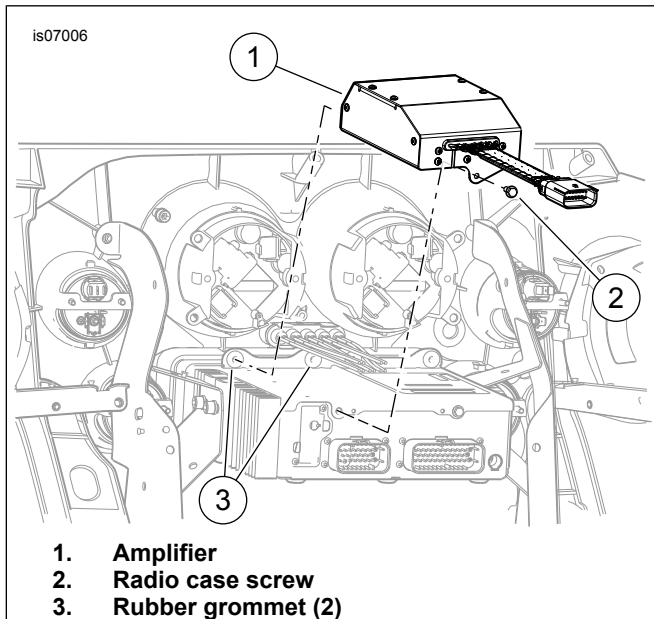

Figure 1. Front Amplifier Installation
1. See Figure 1. Remove the screw (2) at the back of the radio.
2. Position the amplifier (1) on top of the AM-FM radio case, with the metal cones on one end fitting firmly into the leftmost (brake-lever side) rubber grommets (3) at the front of the radio.
3. Fasten the amplifier to the radio with the radio case screw (2). Tighten to 4–5.1 N·m (35–45 in-lbs).